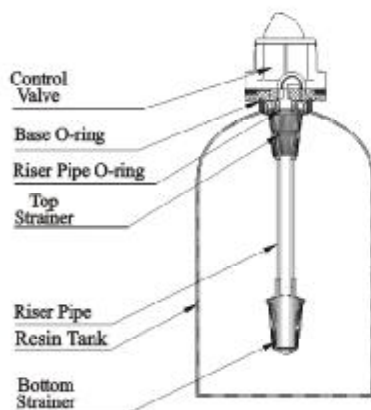

Figure 1-1
- ①The filter should be located close to drain.
- ②Ensure the unit is installed in enough space for operating and maintenance.
- ③ The unit should be kept away the heater, and not be exposed outdoor. Sunshine or rain will cause the system damage.
- ④ Do not install the filter , drain pipeline in circumstance which temperature may drop below 5℃, or above 50℃.
- ⑤One place is recommended to install the system which cause the minimum loss in case of water leaking.
- ①Install control valve
- a. As the Figure 1-1 shows, select the riser pipe with 26.7mm OD, glue the riser pipe to the bottom strainer and put it into the mineral tank, cut off the exceeding tube out of tank top opening. Plug the riser tube in case of mineral entering.